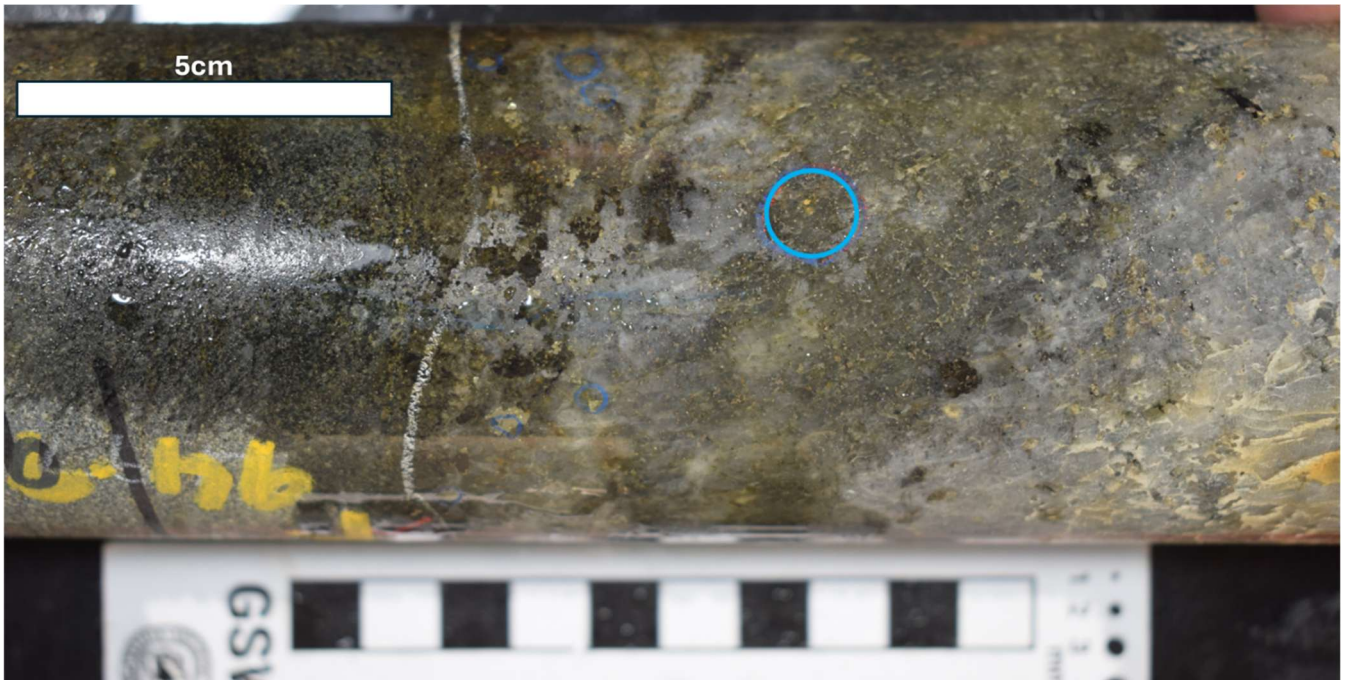

Figure 5 – Visible gold (within blue circle) observed in BSDD050 at 94.87m – 20.6g/t
- **8.0m @ 9.54g/t from 90m including 5.8m @ 13.15g/t from 90m in BSDD050 (Figure 5); and**